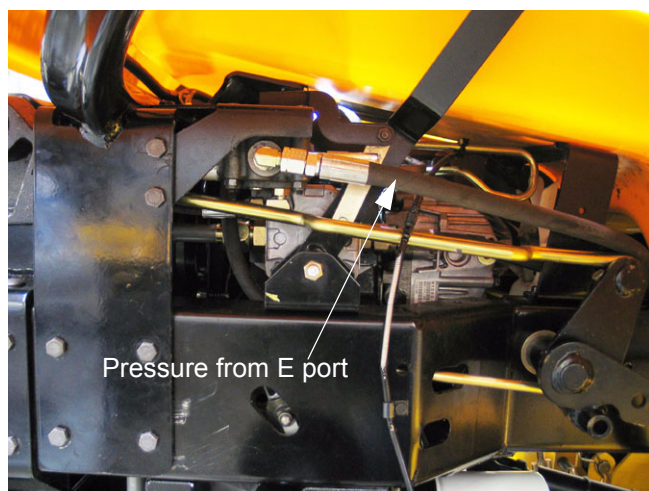

Figure 1.22
- 1.22. From the E port, fluid will travel to the lift control valve. See Figure 1.22.